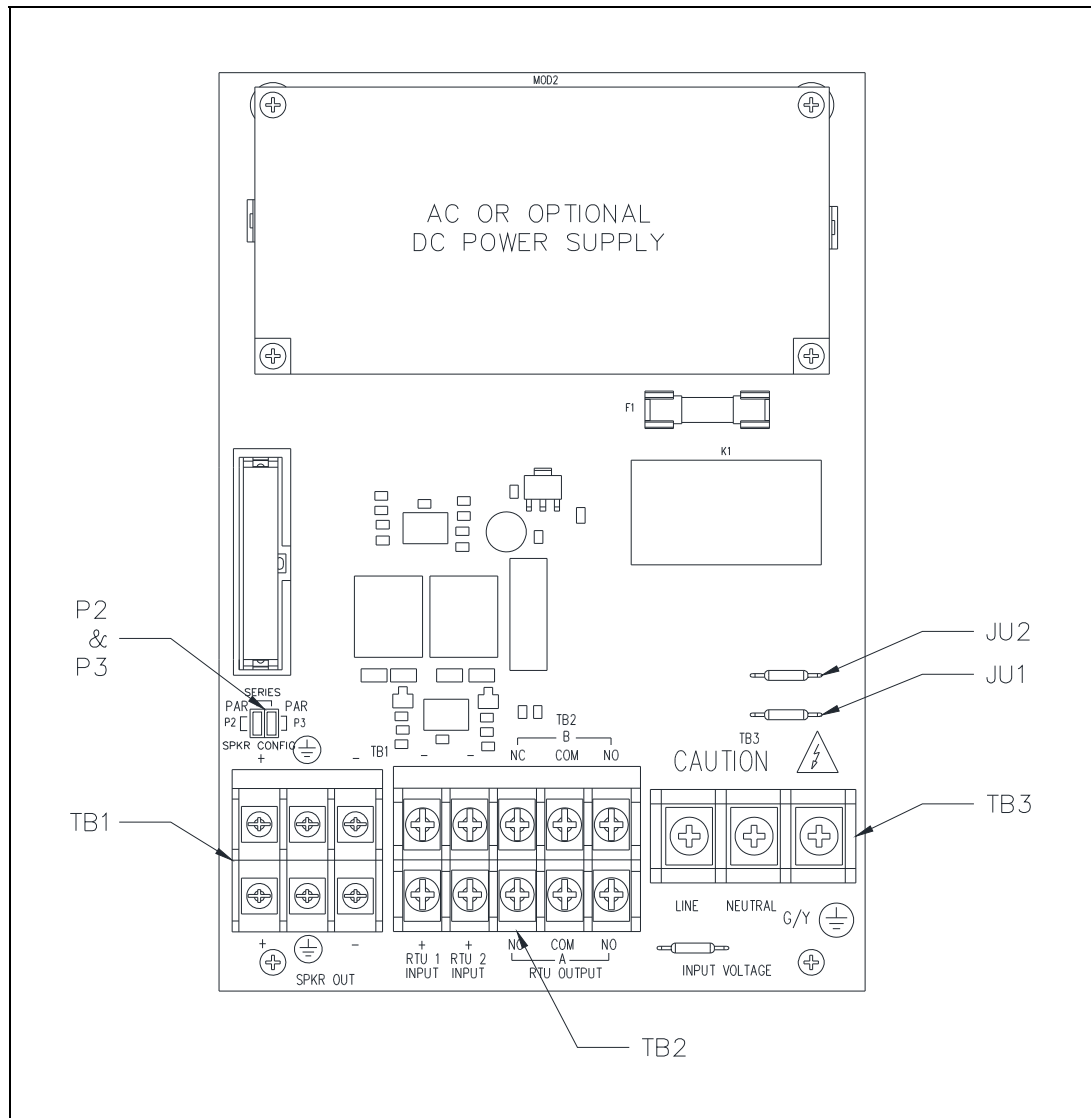
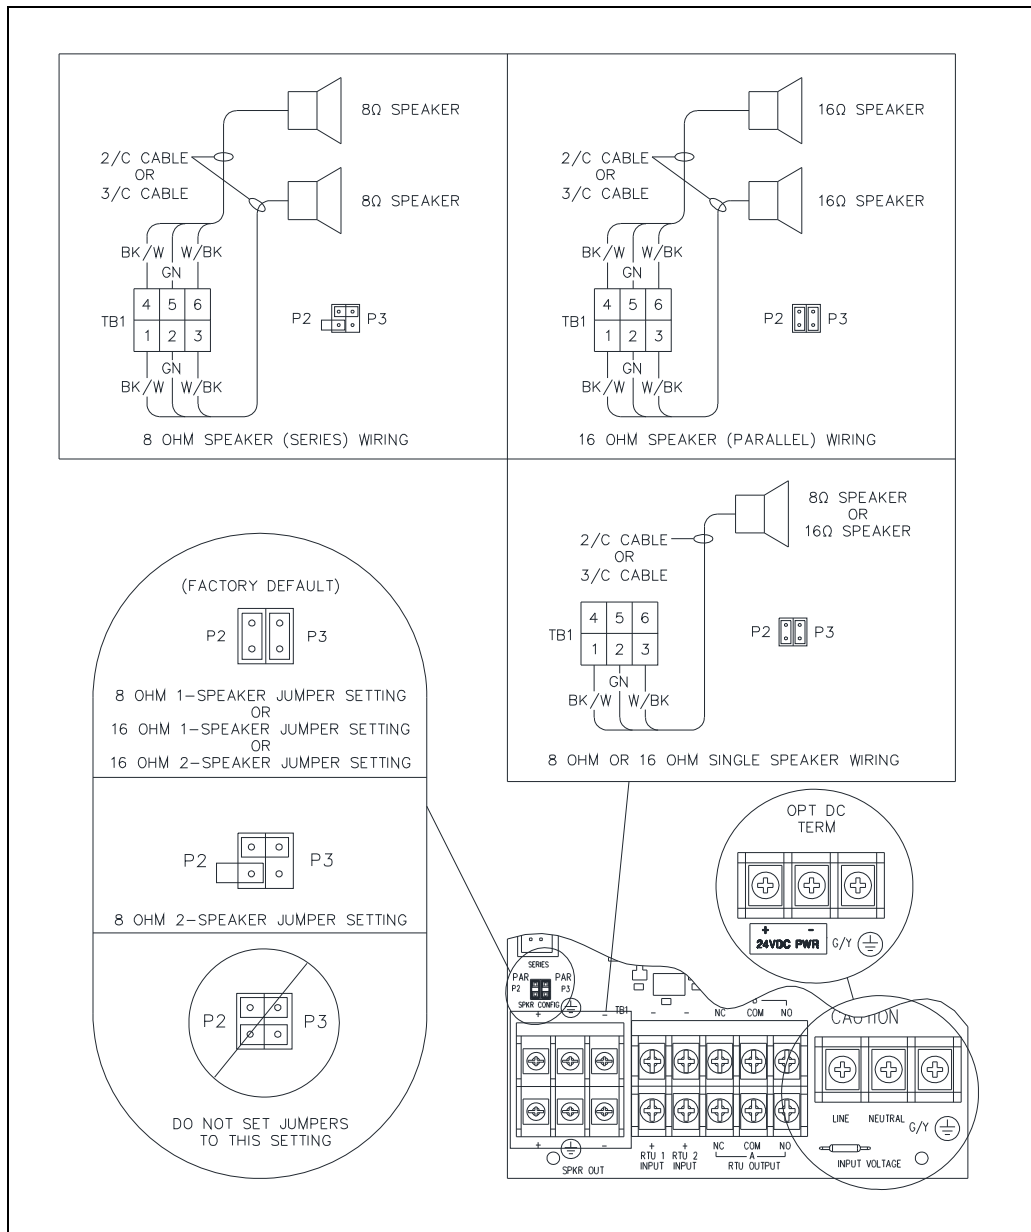
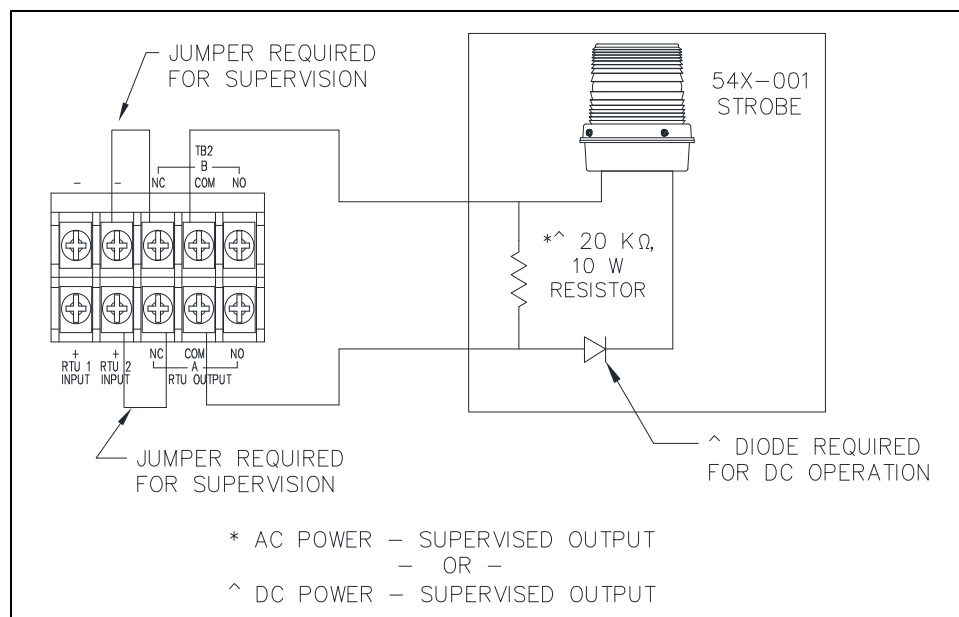

Figure 6. SP2 Standard Termination PCBA
Figure 7. 8/16-ohm Speaker Impedance Configuration and AC/DC Termination at TB3
Figure 9. Supervised Output Wiring—TB2
5. Configure the speaker jumpers; P2 and P3, for the appropriate impedance for use with 8-ohm or 16-ohm speakers (see Figure 6 and Figure 7).
The termination PCBA contains two auxiliary RTU inputs. Terminate the inputs at terminal block TB2 (see Figure 6).
Two form C contacts are provided to power a beacon (see Figure 9). Terminate the output at terminal block TB2 (see Figure 6). Remove jumpers JU1 and JU2 to configure the output as a dry contact.
5. Install a 20-kilohm 10-watt resistor across the terminals of the beacon (see Figure 9).
6. Install jumpers at terminal block TB2 (see Figure 9) to enable cable monitoring.
The ac or optional dc power supply is on the termination PCBA. Connect the local ac or dc power source to terminal block TB3 (see Figure 6 and Figure 7):